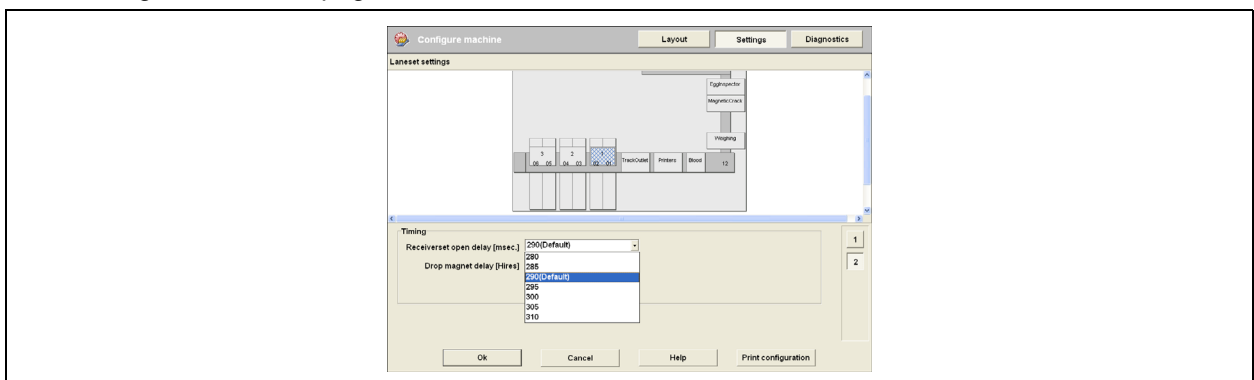

Fig. 169 - MMI Lane set settings
- b. Windows version: In the MMI, go to: -> Settings -> Login as Service -> Machine Settings -> Laneset -> Tab 2. The values can be changed on this page; see fig. 169.